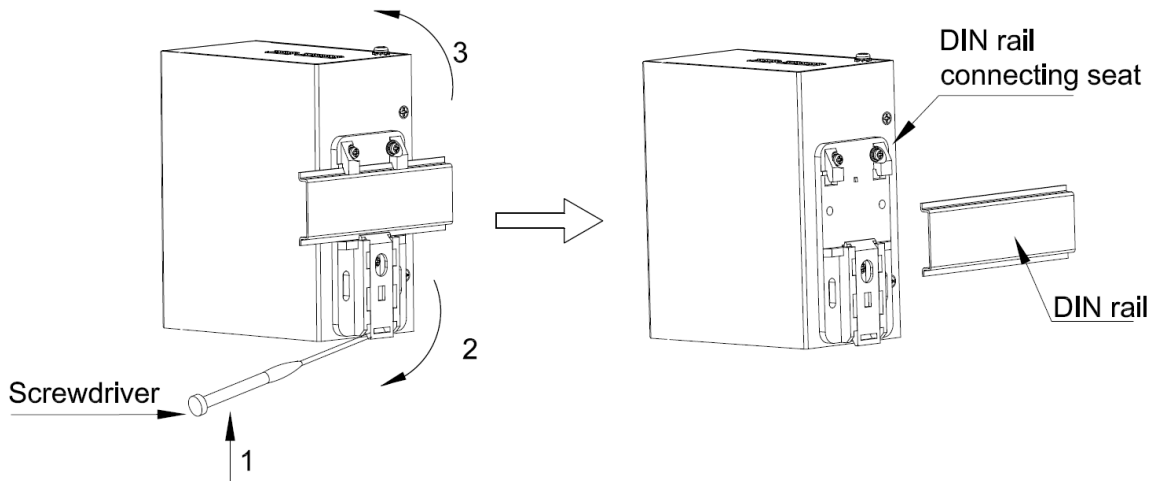

Figure 6 DIN-Rail Dismounting
Step 1: Use a screwdriver to release the spring locking piece at the bottom of the connecting seat by following the arrow 1 on Figure 6.